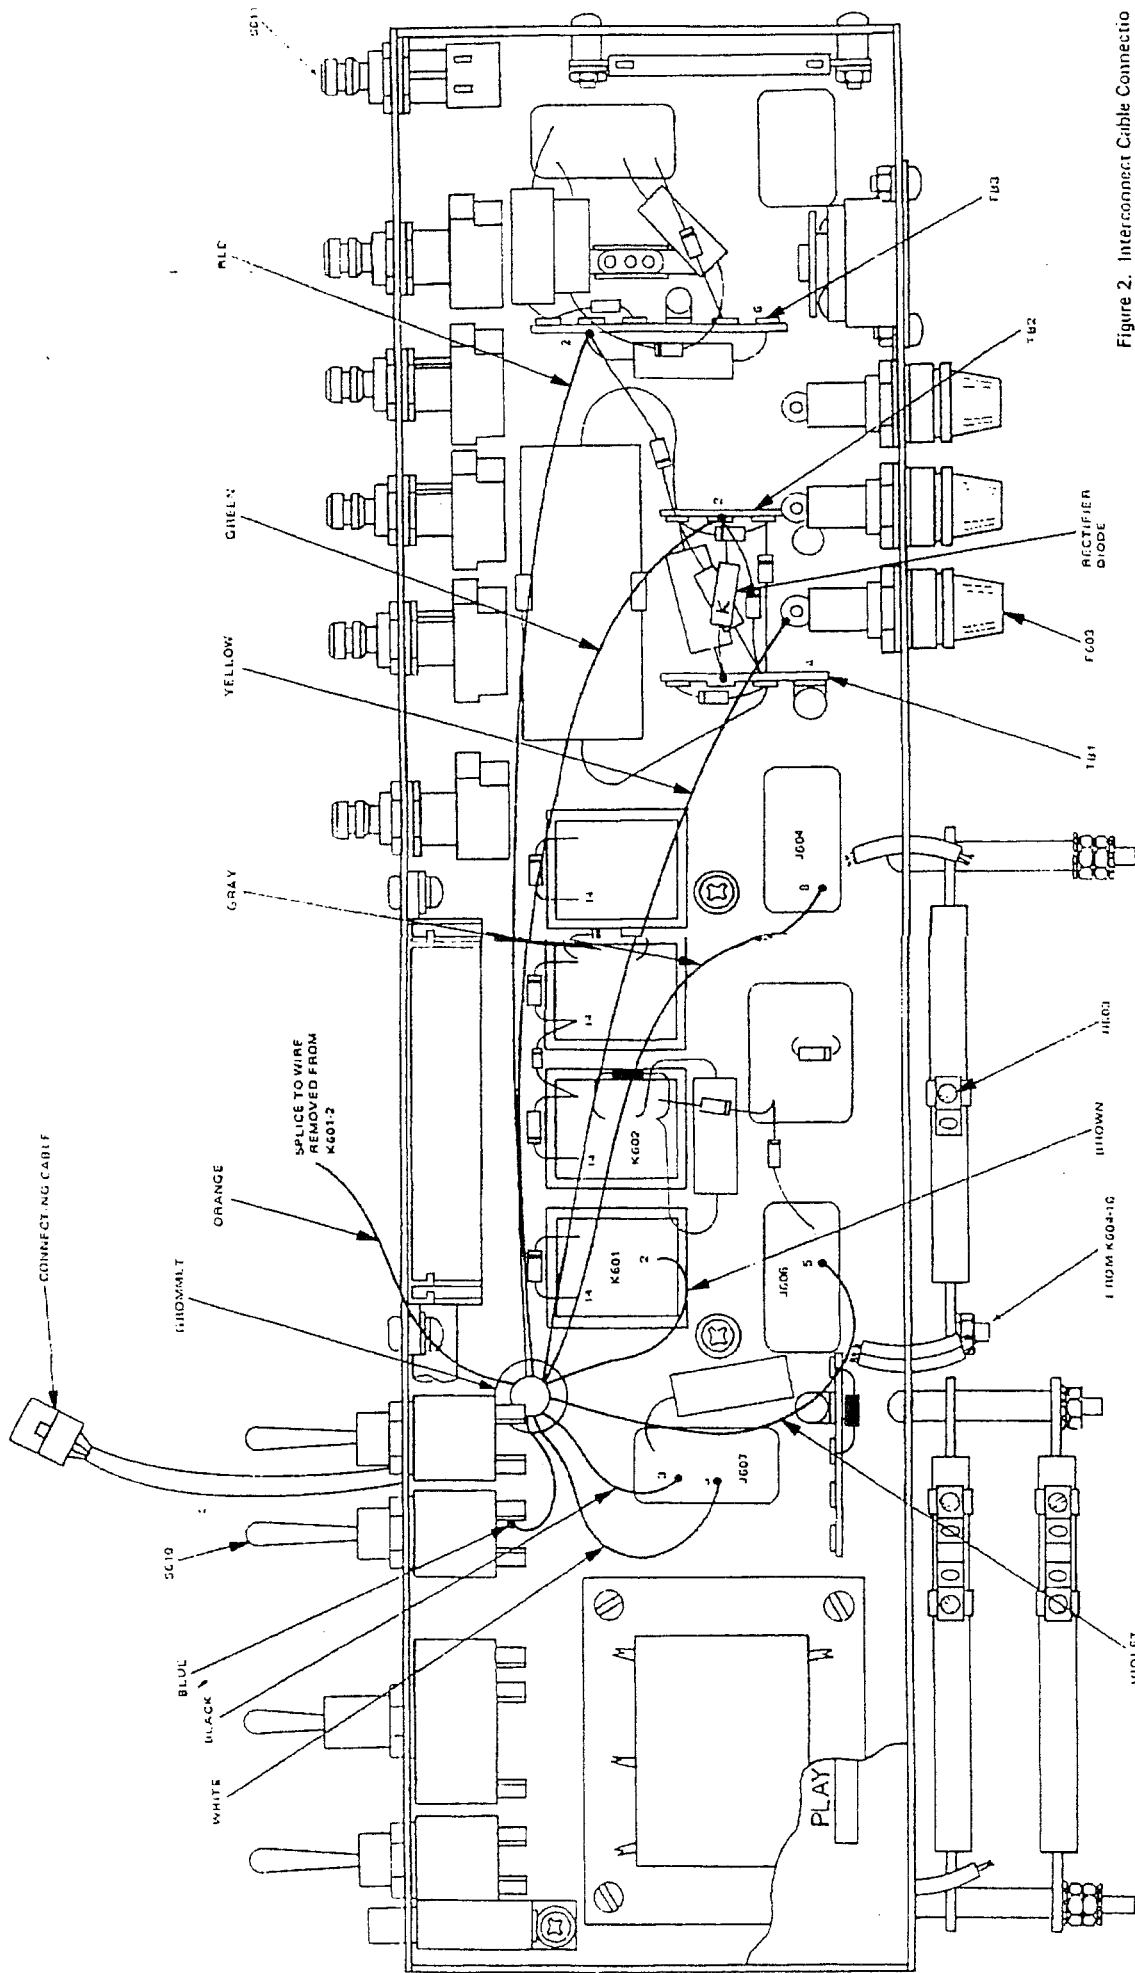

Figure 2. Interconnect Cable Connector
10. Connect the TS-40 interconnect cable wires in accordance with Table 2. See also Figure 2.